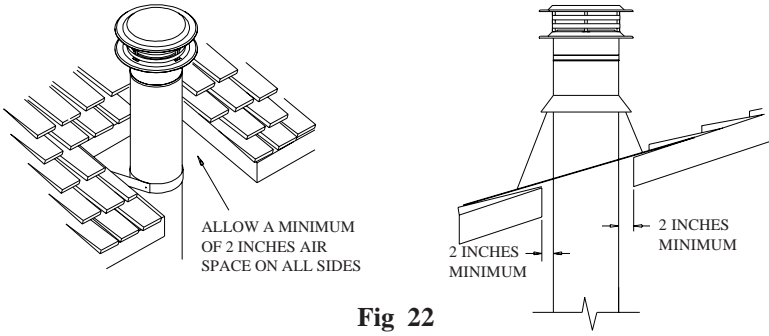

**Fig 20**
3. **Install Wall Thimble:** The Wall Thimble is a three piece unit which includes the cover plate, sleeve extension, and the back portion with shield. On the outside wall, install the back portion of the Wall Thimble. Center the back portion of the Wall Thimble (with shield inside wall) in the framed opening of the outside wall. Be sure to seal the flange of the Wall Thimble around the wall by using a non-hardening waterproof sealant. Attach the back portion of the Wall Thimble to the outside wall using at least (4) 8-penny nails or (4) 1-1/2" wood screws (Fig 20). Depending on the thickness of your wall, you will need to adjust the shield extension to insure that you have a continuous shield throughout
the wall penetration. Adjustments can be made by sliding the extension in or out of the back portion of the shield. Verify that the shield extension reaches the front cover plate when the cover plate is in position. Do not install cover plate at this time. When the shield extension is in position, secure it to the back portion of the shield using (4) sheet metal screws (Fig 20).
and the Tee. (Fig 20 & 21)